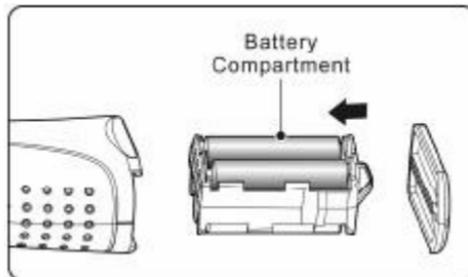

Fig. 7
- ✓ To remove the batteries, hold handheld display unit to remove the battery compartment and then remove batteries. (**Fig. 7**)
- ✓ To install the batteries, remove the battery compartment and insert four (4) new AA batteries into the proper slots in the battery compartment.